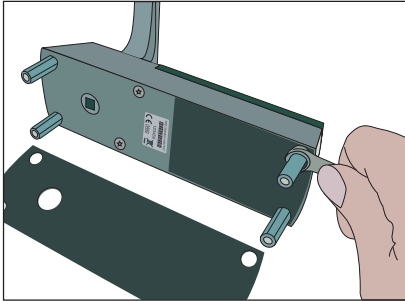

Fig 1
2. Remove the top two standoff screws using the 8 mm spanner provided - Fig 1.